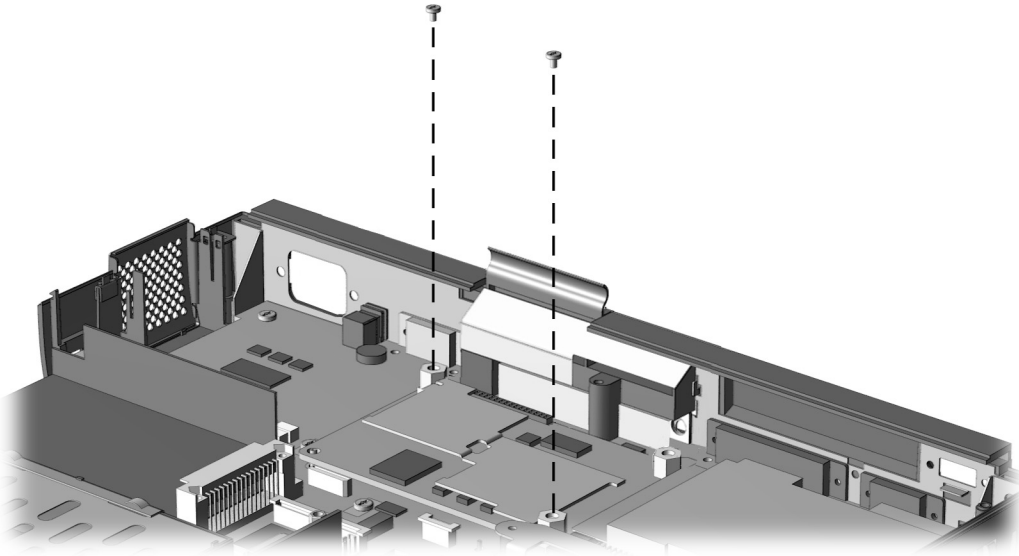

Figure 5-54. *Inserting the Short Screws in the Processor Board*
22. Install the two short screws removed in Step 20 into the upper/left and lower/right holes on the processor board (Figure 5-54). These screws are temporarily used to secure the processor board and processor spacers to the system board.